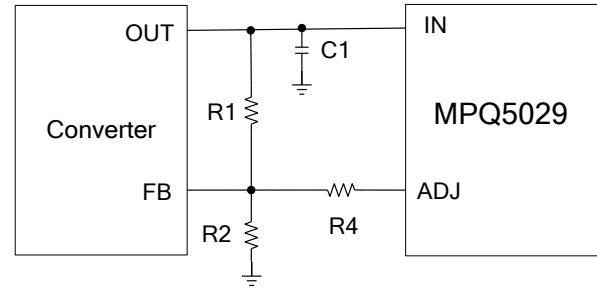

Figure 4: ADJ Configuration
Figure 4 shows the typical ADJ usage. The ADJ sink current capability is 500 μ A. ADJ requires a feedback current through R1 less than 500 μ A. Calculate R1 with Equation (1):